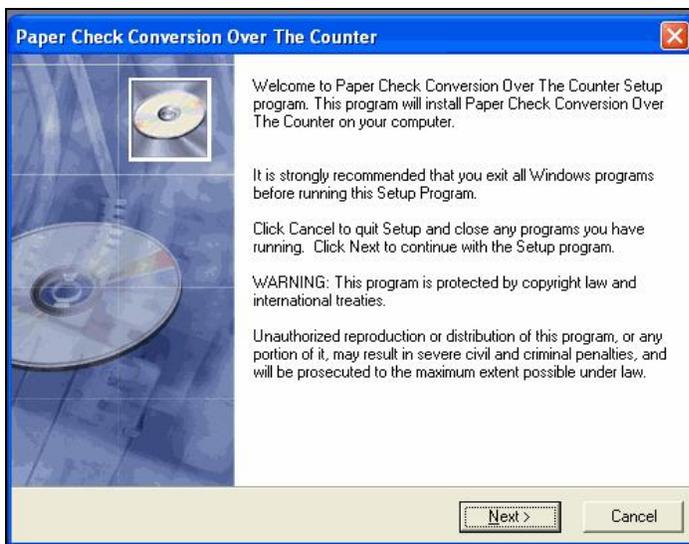

Figure 2.25.2
4. The Paper Check Conversion Over the Counter Welcome screen appears. (Figure 2.25.2). Click **‘Next’**.